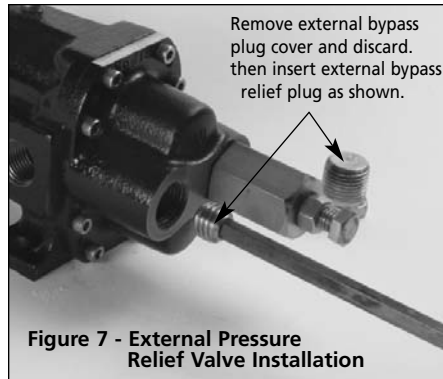

Figure 7 - External Pressure Relief Valve Installation
However, this is not a full-line relief valve, and in cases where frequent extended relief valve operation is anticipated, a full-line external relief valve should be piped in the discharge line and connected either back to the tank or well downstream of the pump suction inlet (See Figure 7).
9. To convert the relief valve to external relief, remove the NPT pipe plug from the pump cover (See Figure 12, Ref. No. 36) and discard. This plug is next to the relief valve. In the bottom of the NPT hole, there is a second drilled and tapped hole. An optional external bypass plug (See Figure 12, Ref. No. 39 included) should be inserted in this hole and bottomed out. The open NPT port must now be piped back to the tank or well downstream of the pump suction (See Figure 7).